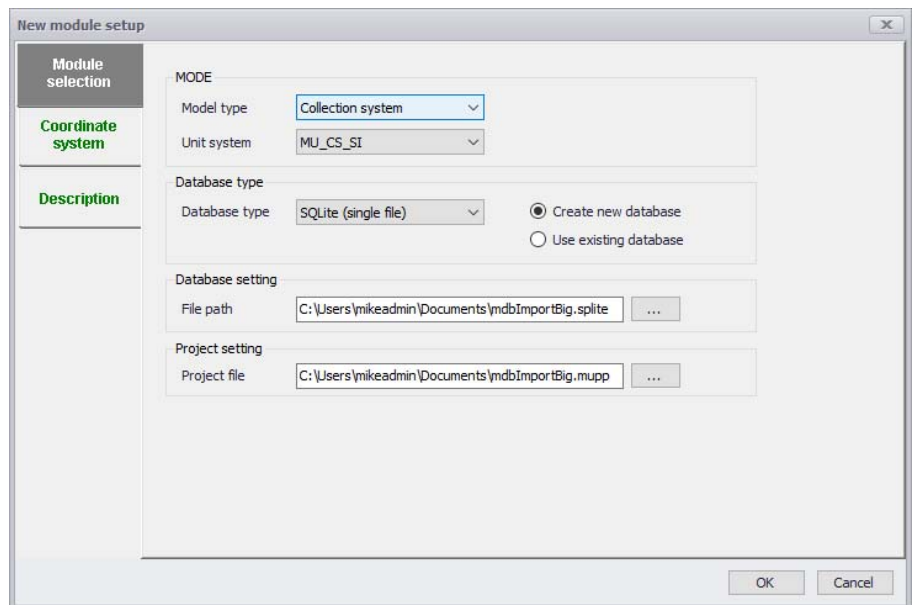

Figure 2.54 Creating a new MIKE+ project
- On the dialog that comes up, see Figure 2.54 choose Model Type to be either Collection System or Water Distribution